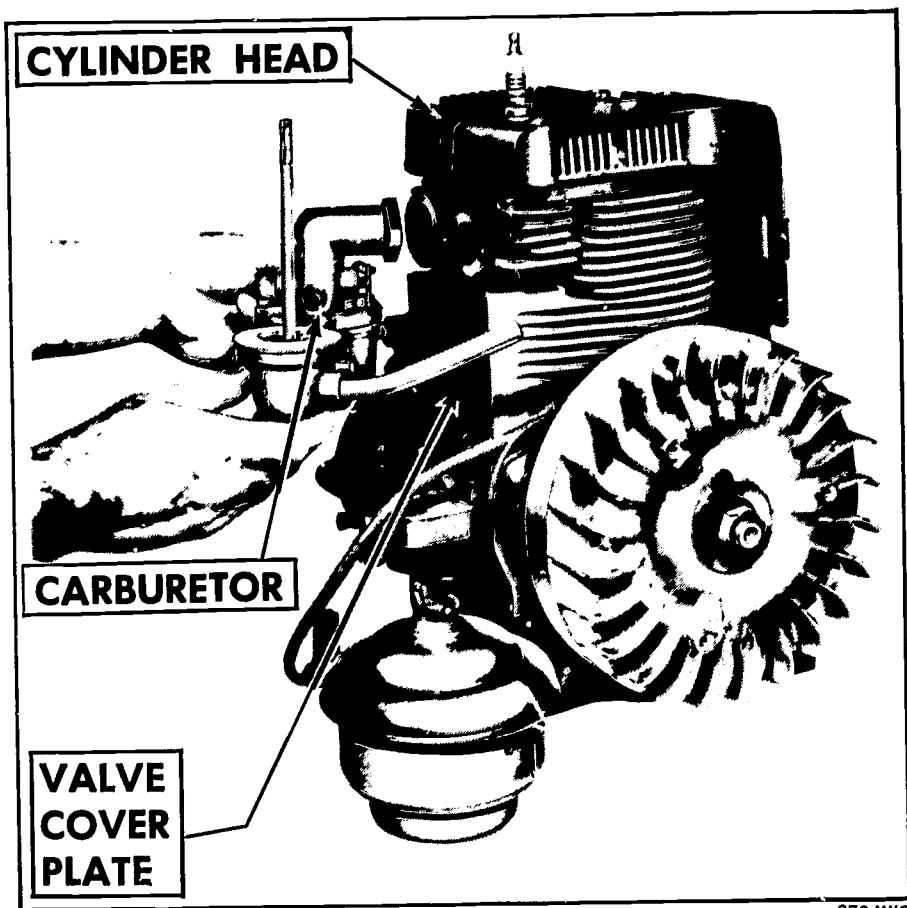

FIGURE 188. It may be necessary to remove the carburetor to get to the valve-cover plate.
3. Remove the carburetor if not already removed (Figure 188).